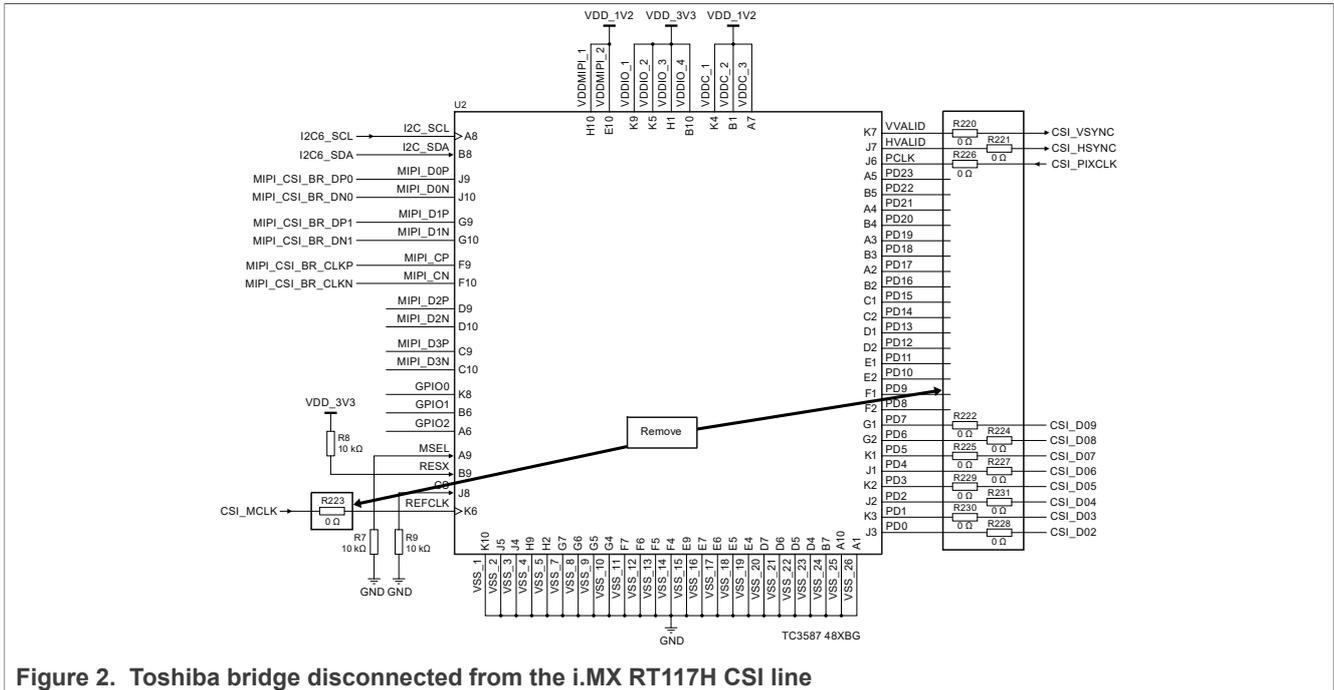

Figure 2. Toshiba bridge disconnected from the i.MX RT117H CSI line
1. The camera multiplexer is composed of resistors. The developers must remove the resistors, as shown in Figure 2.